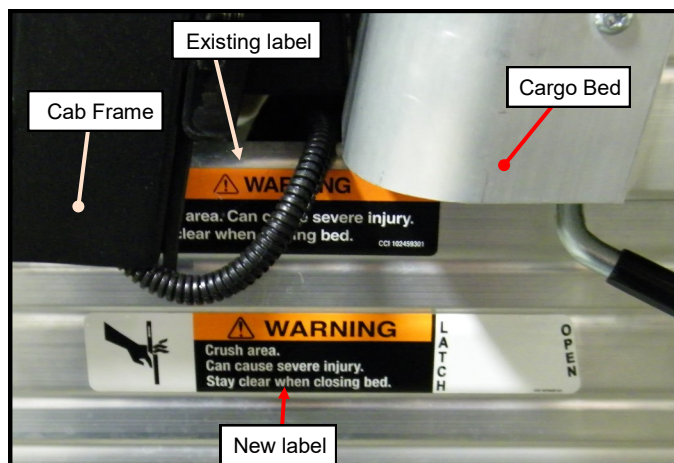

Figure 7.1: Tilt Bed Warning Label
- 7.1 Apply the Tilt Bed Warning Label on the driver's side of the Carryall, near the front of the Cargo Bed and below the cab frame as shown (**Figure 7.1**).